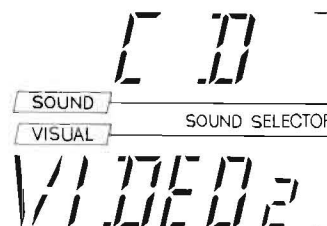

Fig. 20
4. Press the desired AUDIO source selector button (CD, PHONO, AM, FM, TAPE 1, TAPE 2, AUX) (Fig. 20). The SOUND signal of the source thus selected is output from the speakers, while the VISUAL signal from the VIDEO 2 (VIDEO 1, VCR) terminals is output from the MONITOR OUT terminals.